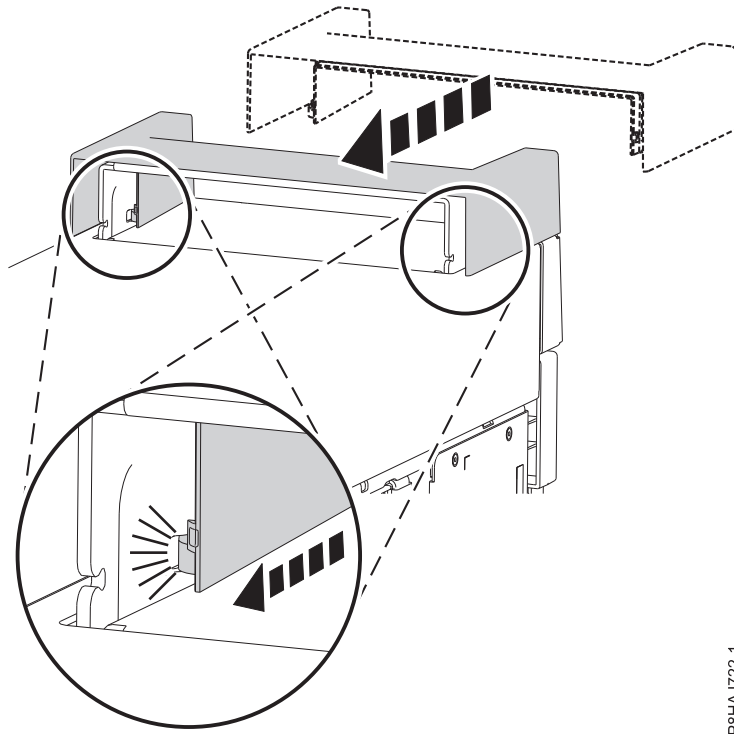

Figure 106. Securing the handle cover in an 8286-41A stand-alone system
1. Secure the handle cover to the internal RDX docking station (FC EUA3) by sliding it toward the rear of the system. See Figure 106.